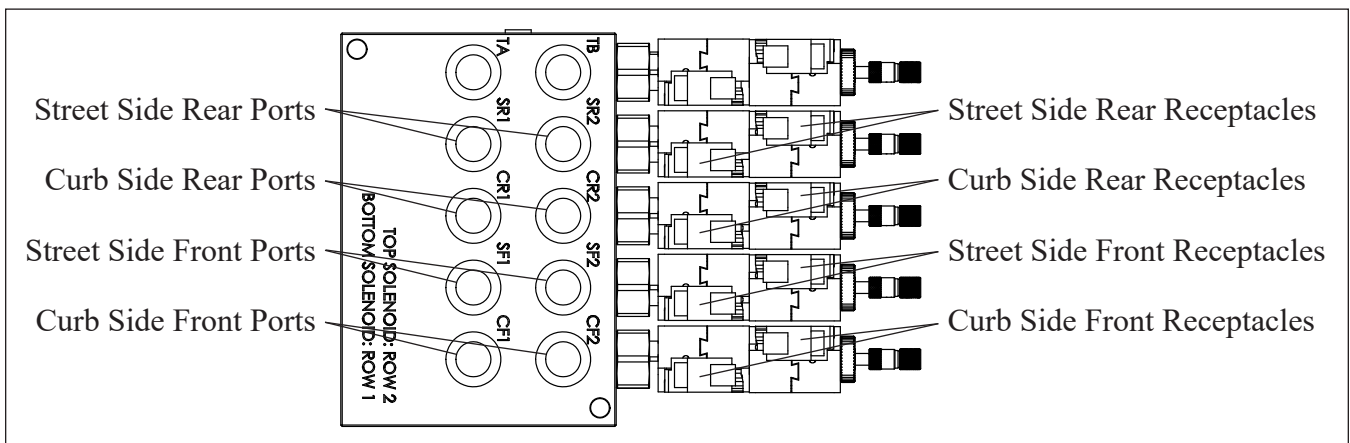

Figure 6 — Outrigger/Tool Valve Ports and Solenoid Receptacles
- c. Disconnect both hoses from the hydraulic adapters on the cylinder ports or the control valve ports for the corresponding cylinder (refer to Figure 6). Reconnect the hoses to the opposite adapters. Confirm that the hose marked “E” is now connected to the extend port if reversing connections at the cylinder, or that the hose marked “1” is now connected to the #1 port if reversing connections at the valve.
- d. Disconnect both electrical connectors from the solenoid coil receptacles for the corresponding cylinder (refer to Figure 6). Reconnect the connectors to the opposite coil receptacles.